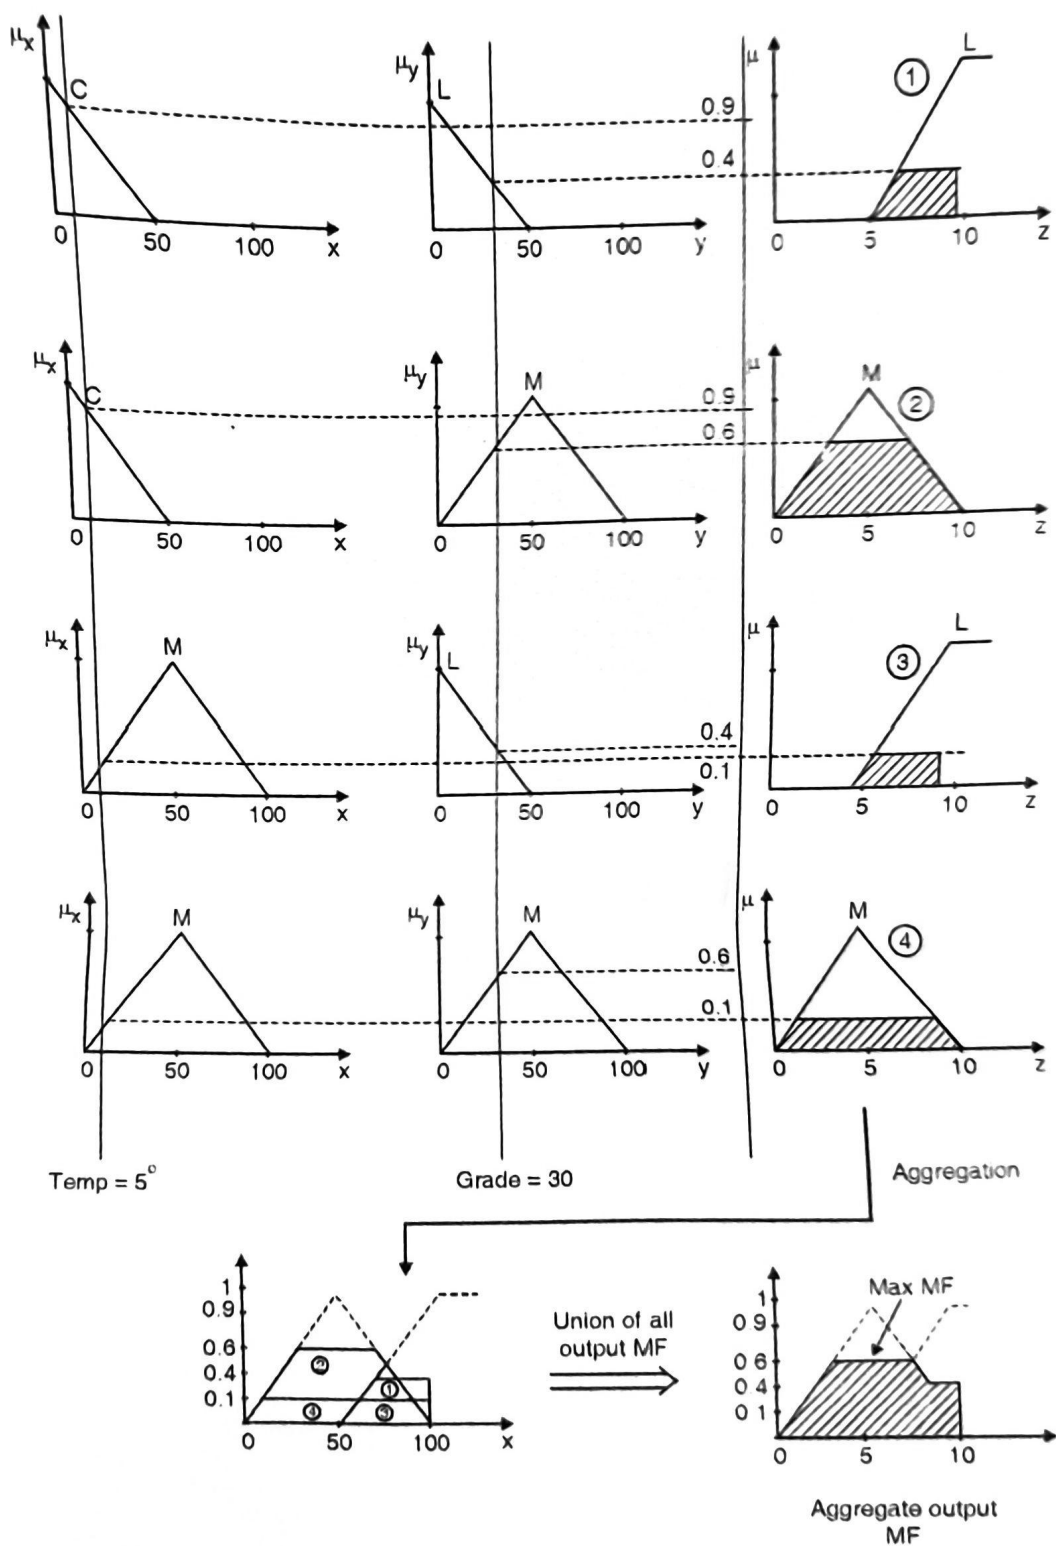

Fig. P. 6.9.3(d) : Process of rule evaluation and defuzzification
- The above rule corresponds to the output MF  $\mu_M(z)$ . This is shown in Fig. P. 6.9.3(c).